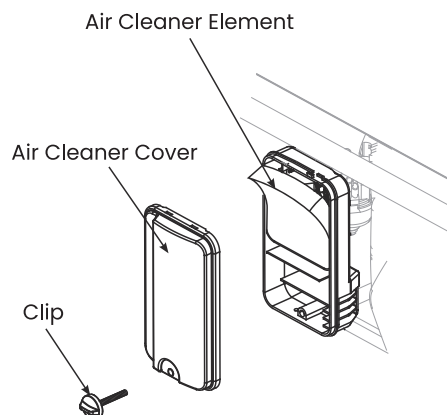

Figure 11: Unscrew air cleaner cover
7. Select the proper engine oil as specified in Figure 11.
3. Unscrew the air cleaner cover and tip the cover down (see Figure 11)